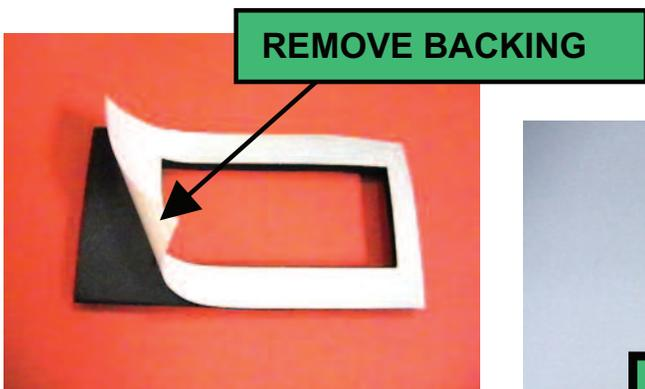
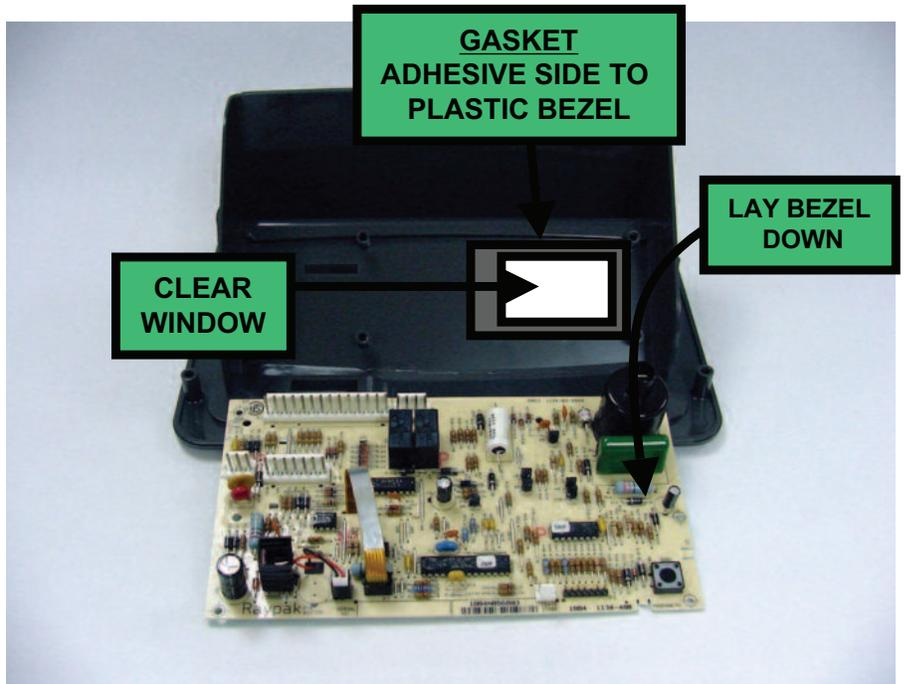

Fig. 16
Fig. 17
1. Remove backing on gasket and install adhesive side on the control panel bezel as shown in **Fig. 16** & **Fig. 17**.